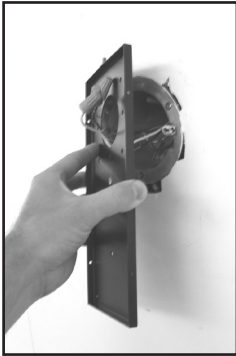

Figure 1
Step 2 Locate outlet box and temporarily mount fixture mounting bracket (painted black) to the outlet box. With bracket mounted, mark the holes to be used for additional mounting support. (See Figure 1)